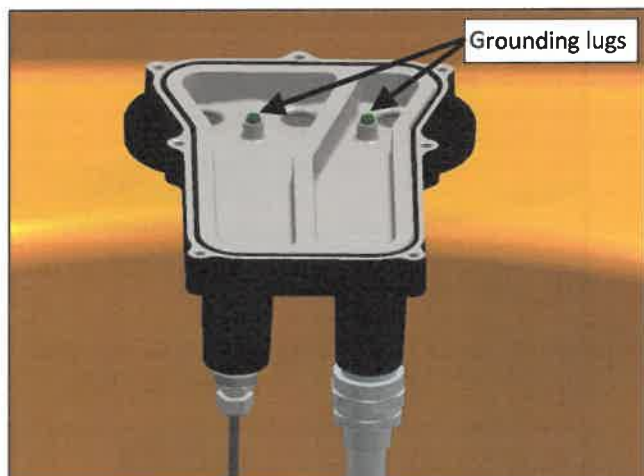

Figure 19
g) Make and test all electrical connections. Two grounding lugs are available in each box. See Figure 19.